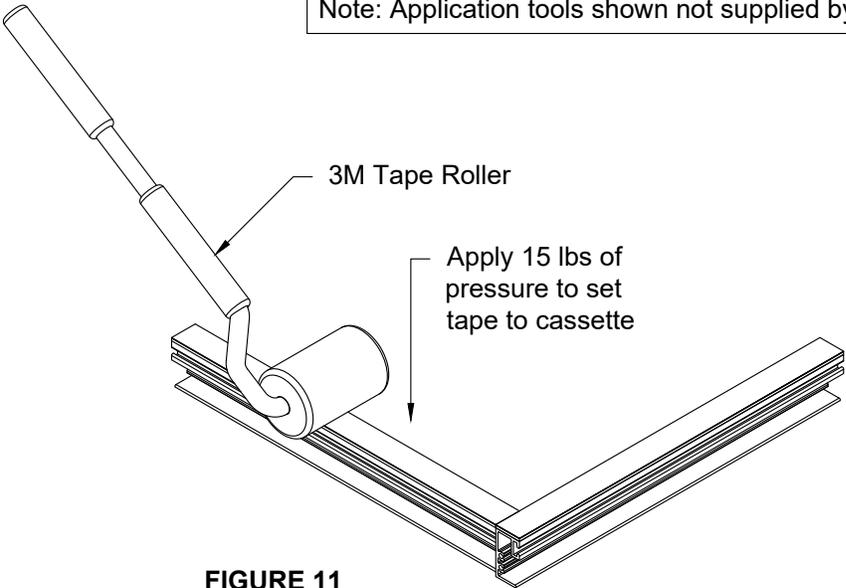

FIGURE 11
- 2.8 Tape is rolled onto cassette using 3M tape roller applying pressure of ~15 lbs. SEE FIGURE 11